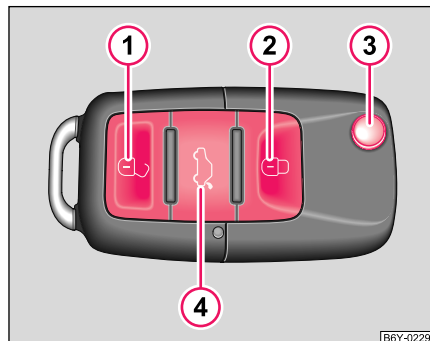

Fig. 26 Radio-operated key
- Press button  for about 1 second ⇒ page 44, fig. 26.